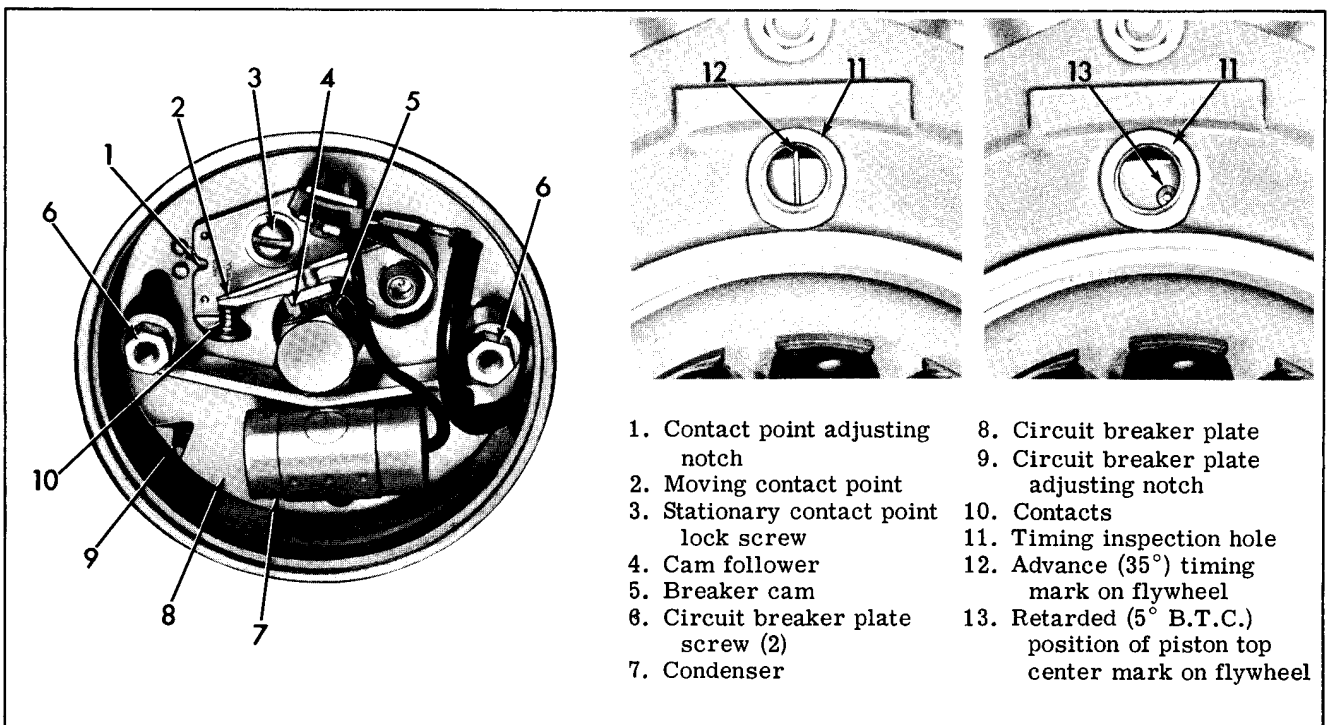

Figure 5-15. Circuit Breaker and Timing Gears
#### ADJUSTING POINTS (See Figure 5-15)
#### CHECKING ADVANCED TIMING WITH STROBE TIMING LIGHT (Figure 5-15)
#### CHECKING RETARDED TIMING WITH CIRCUIT TESTER (See Figure 5-15)
The narrow lobe cam is now at the approximate point at which contacts (10) open and front cylinder ignition spark occurs. When the wide cam lobe opens the points, rear cylinder ignition spark occurs. Connect a circuit tester such as a light bulb across the contact points to determine the exact point of contact opening. Loosen circuit breaker plate screws (6) just enough to shift circuit breaker plate (8) using a screwdriver in notch (9), so contacts will open exactly when piston top center timing mark (13) is aligned in inspection hole (11) as shown in Figure 5-15.